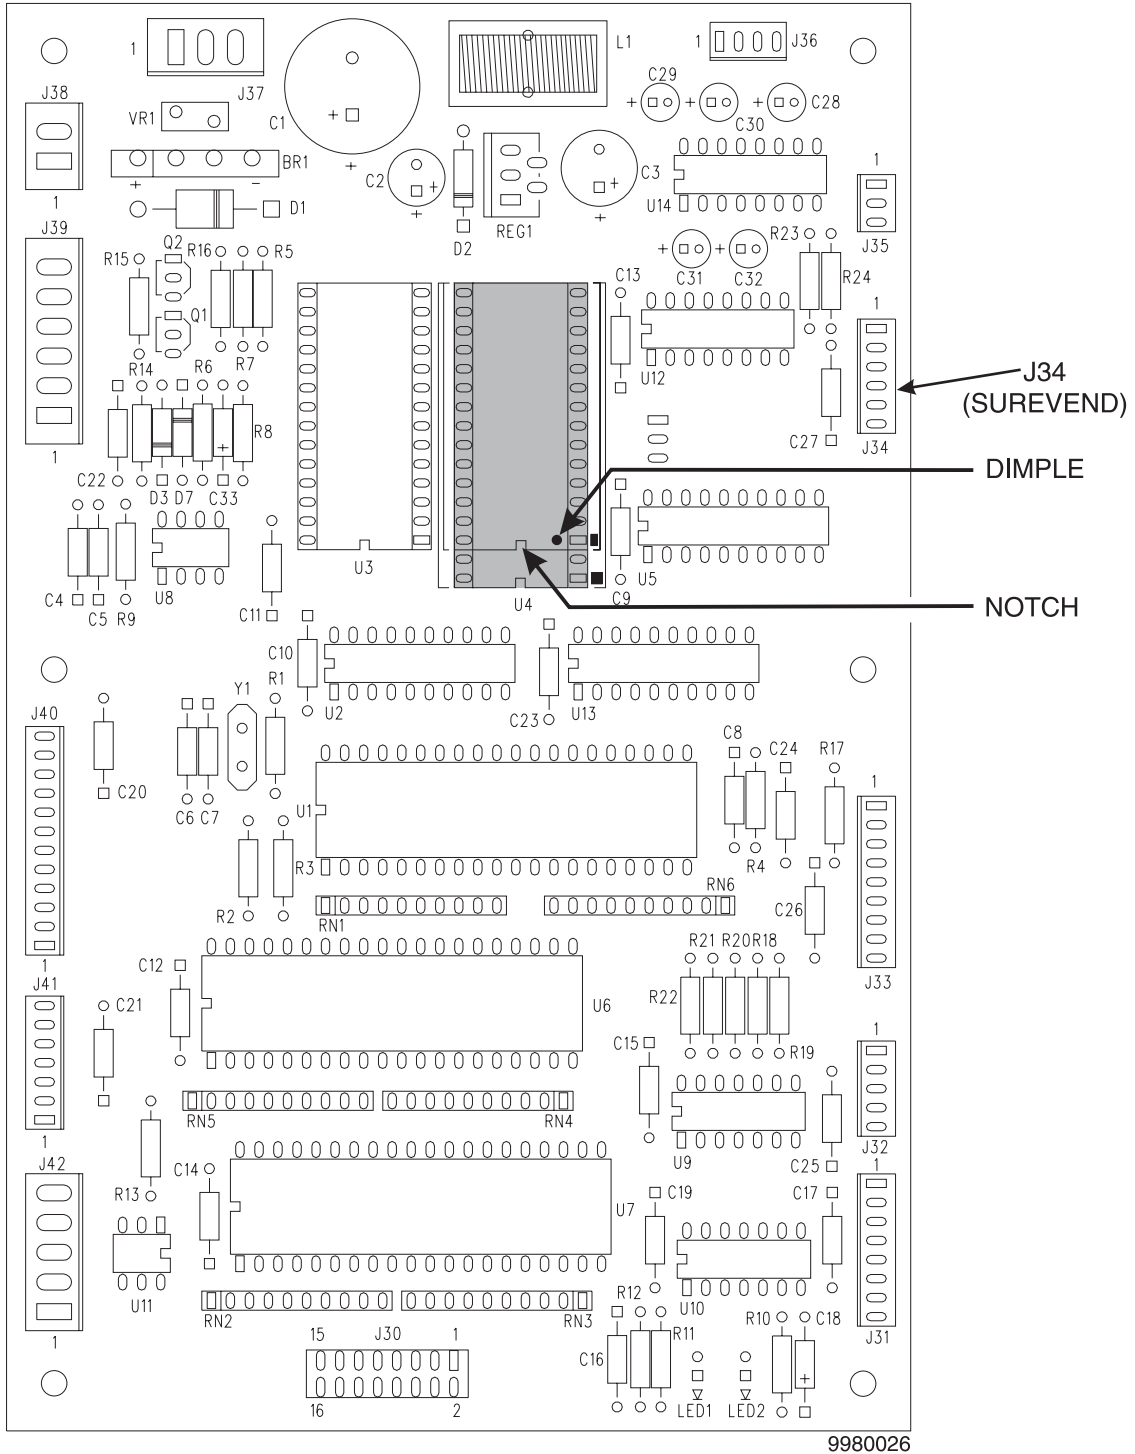

Figure 12 Controller Card Showing the Location of EPROM U4
- Connect the gray main controller to sensors harness wire to the main controller board connector J34 (See Figure 12 below) and route it inside the cabinet, making sure it is clear of any moving parts. Connect the harness wire to the sensor board as shown (See Figure 10 on page 12). Route the harness wire into the harness clips along the delivery pan.
- a. On Figure 12, see the shaded area representing EPROM U4. These devices have various means of showing how they are to be oriented on the circuit board. Some EPROMs will have a small notch which matches the notch printed on the controller board. Other EPROMs may have a small dimple as shown, others may have a painted stripe. Take note of where the locating mark is on the EPROM currently mounted on the controller board. Your new EPROM will be placed in that same orientation. Some EPROMs have 28 pins, so it does not use the entire socket. The shaded area on the figure is where the new EPROM will go, leaving the four holes at the bottom of the socket empty.